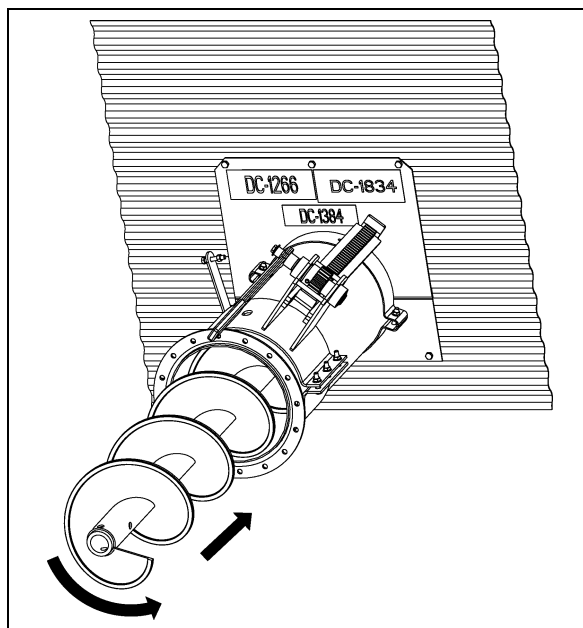

Figure 4W
2. Insert the flight into the tube with the square bushing end facing the center well and the round bushing end facing the discharge end of the tube. (See Figure 4W.)